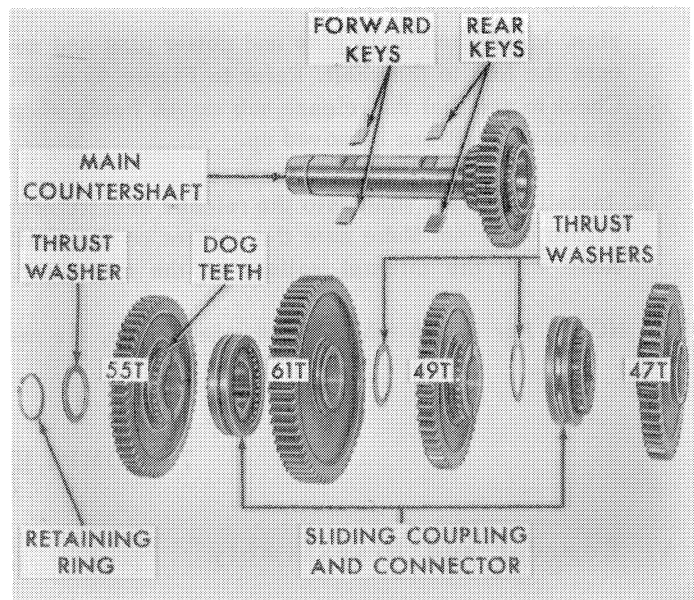

Figure 56
14. **Ford 9000 Transmissions:** Move the 55 tooth gear, Figure 56, as far forward as possible on the countershaft. Move the sliding gear coupling forward to engage the dog teeth of the 55 tooth gear. Using a long screwdriver, gently and evenly move the connector forward to gain access to the forward keys on the countershaft. Remove the keys. Move the remaining gears forward on the countershaft. Move the rear sliding gear coupling to engage the dog teeth on the 49 tooth gear, Figure 56. Gently and evenly move the connector forward on the countershaft to free the rear keys. Remove the keys from the countershaft. Move the countershaft to the rear of the transmission through the gears and remove the countershaft from the case.
15. Remove the countershaft components from the transmission case, starting from the front gear and working to the rear, and place them in sequence. Refer to Figure 56 or 57. (There is a thrust washer on each side of the 49 tooth gear. Do not forget to put these in the sequence.)